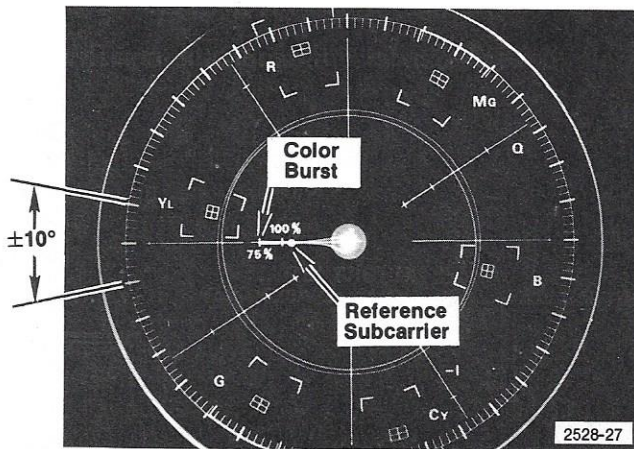

Fig. 2-11. Double-exposure photograph showing color burst in phase with the reference subcarrier.
f. CHECK—that the TSG6 color-burst vector is at  $180^\circ$  within a tolerance of  $\pm 10^\circ$ . See Fig. 2-11.